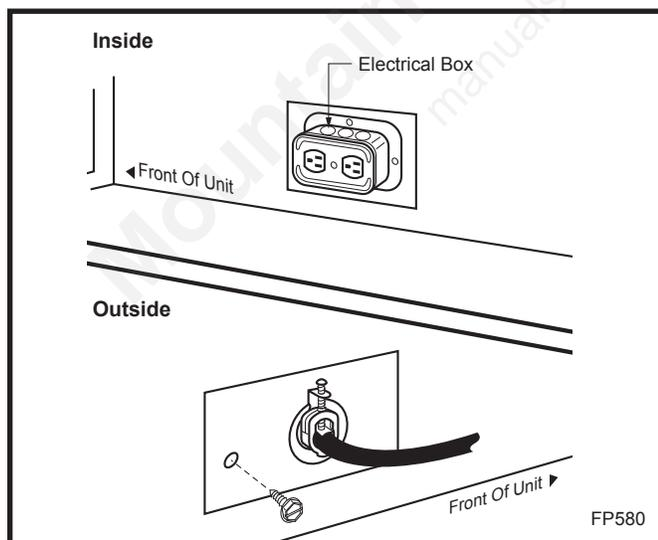

Fig. 8 Junction box (EB-1) hook-up.
Secure the EB1 assembly to the inside of the electrical box coverplate using two (2) screws. Attach the cover to the face of the EB1 while being careful to position excess wire completely within the EB1. Attach the coverplate to the fireplace. (Fig. 8)